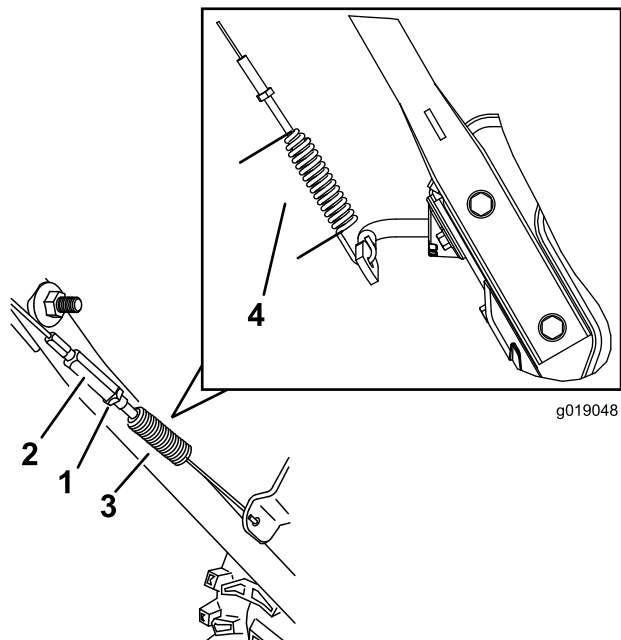

Figure 38
- Tighten the jam nut (Figure 38), ensuring there is slight tension on the cable.